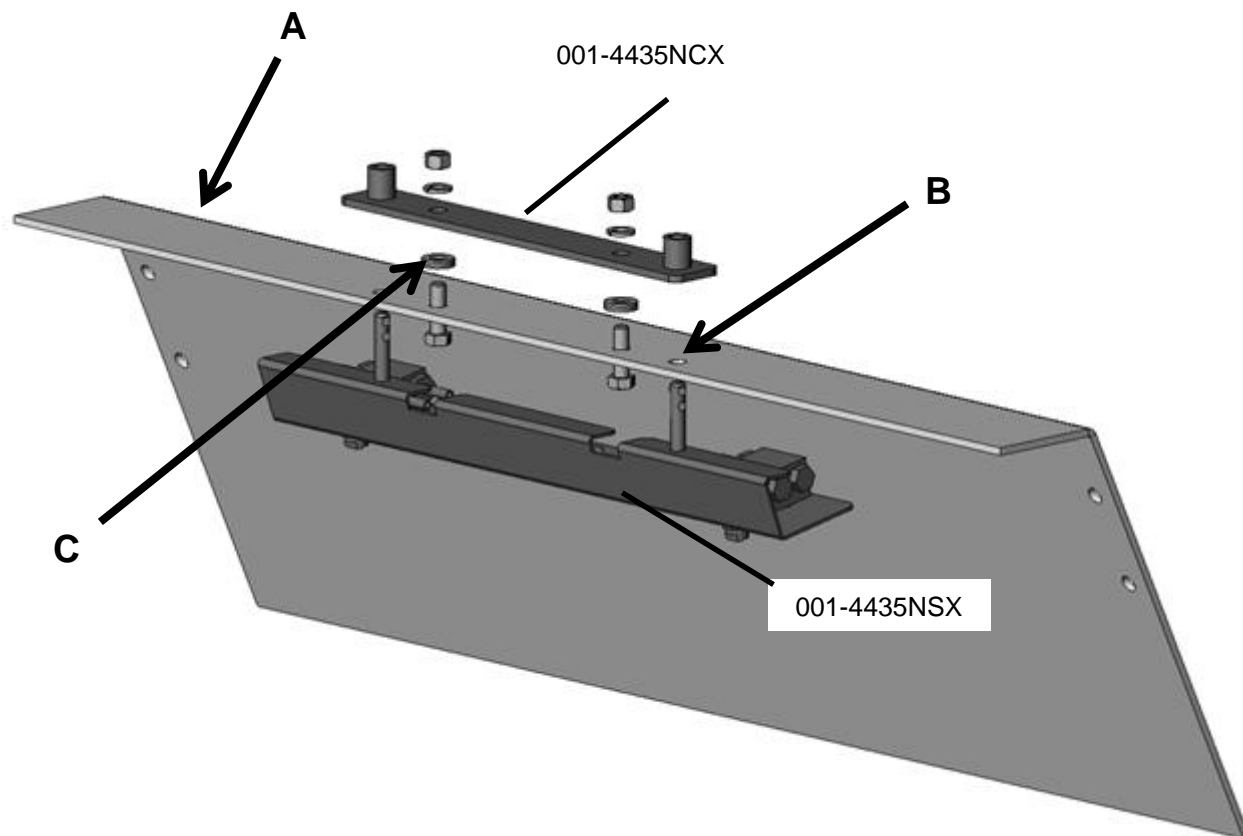

Figure 15
1. Locate the flat steel directly above the stuffer forks. Figure 15, Point A
3. Using the shield holder (001-4435NCX) as a template clamp the holder to the baler, mark the four holes and drill them to 7/16" diameter (figure 15 point B).
4. Attach the shield holder (001-4435NCX) to the baler through the two center holes using the two 3/8" x 1-1/4" hex bolts, six flat washers, two lock washers, and two hex nuts. **Six** washers (three per side) may need to go between the baler and the spray shield holder (figure 15 point C).